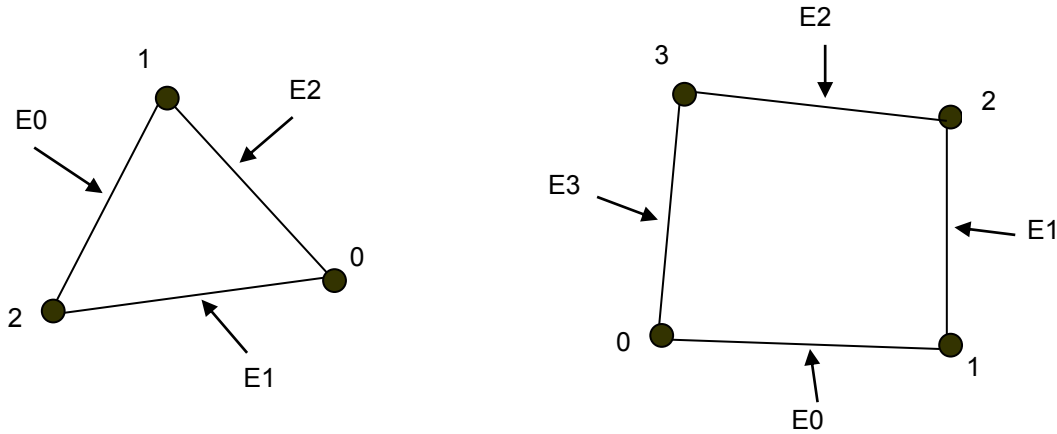

Figure 1 – Nodes and edges local numbering in triangles and quads.
**neighbors(i, j)** is the neighbor of the  $j^{\text{th}}$  element sharing its  $i^{\text{th}}$  edge. See Figure 1 for the local numbering of the faces.